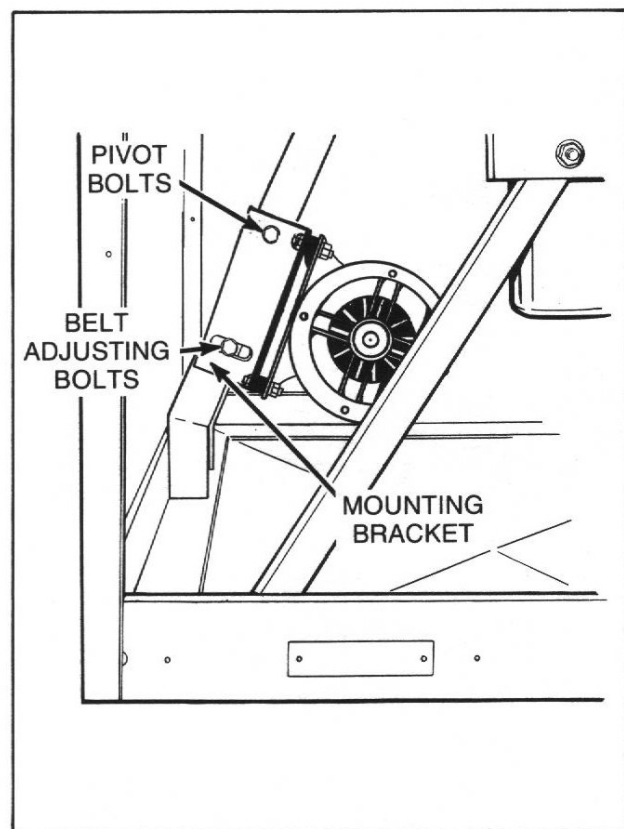

Figure 29
- d. Remove two mounting bracket pivot bolts and lockwashers, *Figure 29*, and allow assembly to pivot down and rest on washer base. Belt adjusting bolts may have to be loosened slightly.
- e. Remove two belt adjusting bolts, washers and lockwashers, *Figure 29*, and carefully lift assembly out through front of washer.